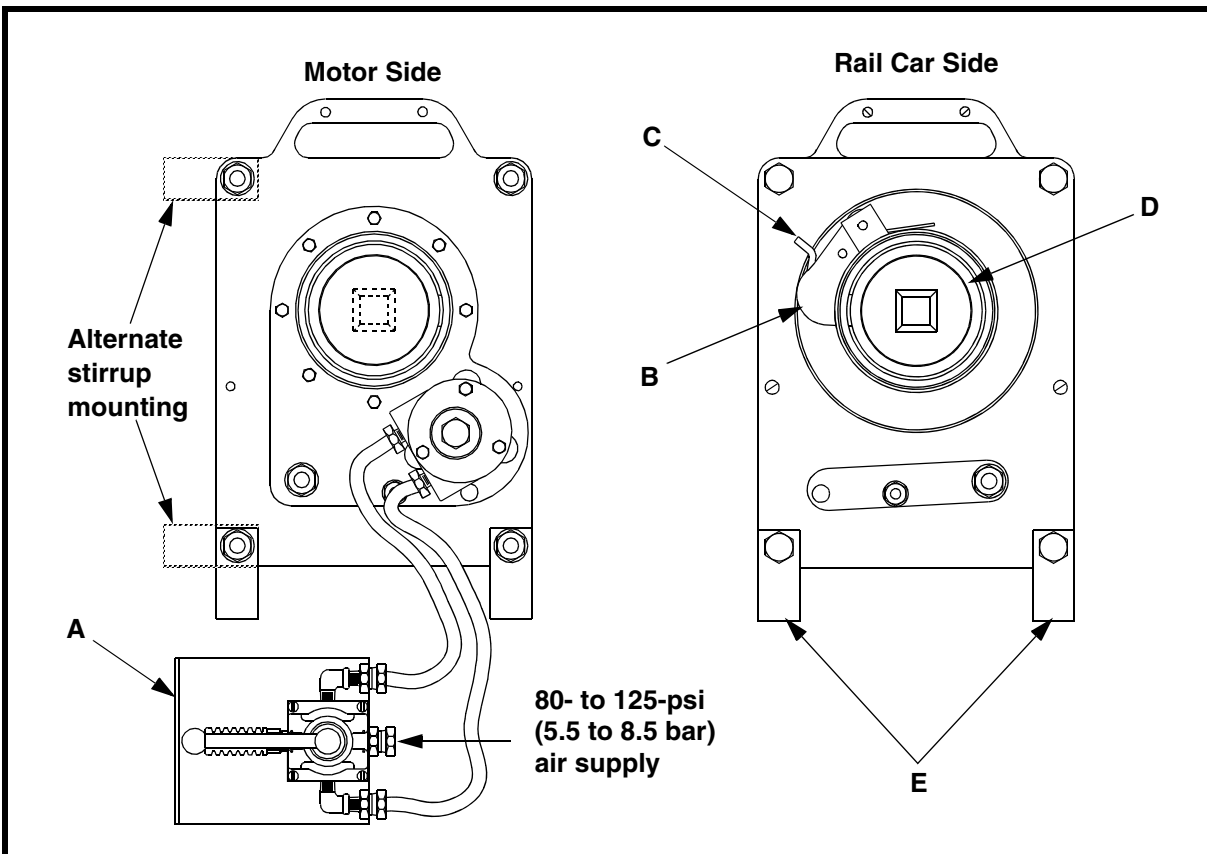

Figure 1. Operating Martin® Gate Jack Opener
1. See Figure 1. With control valve (A) in closed position, connect filtered and lubricated 80- to 125-psi (5.5- to 8.5-bar) air supply to control valve inlet.
2. Retract the dog (B) by moving the release lever (C) until it stops.
3. Place the Martin® Gate Jack Opener over the capstan (D) on the rail car. With the stirrups (E) pointing down, release the dog into a capstan hole.